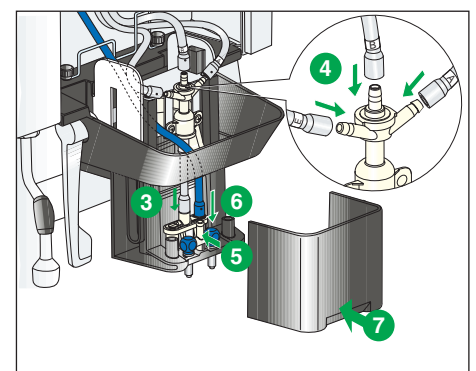

Fig. 6
- 3 Reinstall the cappuccino maker nozzle. (Fig. 6)
- 4 Reconnect tubes A, B and E to the cappuccino nozzle. (Fig. 6)
- 5 Reposition the flow divider and lock it back in place. (Fig. 6)
- 6 Reconnect the coffee tube to the flow divider. (Fig. 6)
- 7 Reinstall the nozzles cover. (Fig. 6)